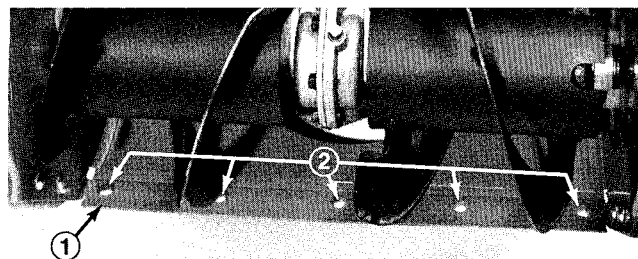
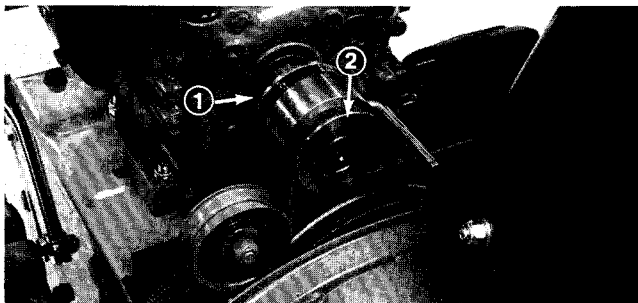

Figure 28
Figure 31
2. Adjust both skids so there is 1/8 of an inch (3 mm) between bottom of auger and level surface. When skids are adjusted correctly, tighten flange nuts. Next, check scraper blade that is mounted at bottom of auger housing (Fig. 28). To adjust
3. Loosen four flange nuts (Fig. 28) securing both skids to auger side plates. Next, slide skids down as far as possible so auger is as far from level surface as skid adjustment allows; then tighten flange nuts.
When auger/impeller drive belt (Fig. 31) becomes worn, stretched, oil-soaked, or otherwise defective, belt replacement is required.
3. Remove auger drive belt from engine pulley and large auger/impeller pulley (Fig. 31).
4. Install new belt around large auger/impeller pulley (Fig. 31). Next, loop belt over engine pulley, making sure that belt is on inside of idler pulley and wire belt guide (Fig. 31).
5. Set unit upright and remove traction drive belt from engine pulley and large traction pulley (Fig. 31).
6. Install new belt around large traction pulley (Fig. 31). Next, loop belt over engine pulley, making sure that belt is on inside of traction idler pulley and wire belt guide (Fig. 31). Tip snowthrower onto auger housing, block it and hook spring onto side plate (Fig. 28). Replace rear shield and set unit upright.
7. Replace auger/impeller drive belt: refer to Replacing Auger /Impeller Drive Belt, item 4-5.